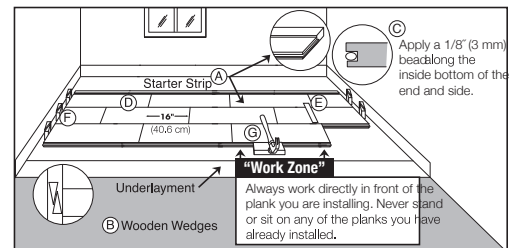

Figure 14
- Select the first board. All installations should begin with the groove side against the wall using the longest boards available. Apply a continuous 1/8" (3 mm) glue bead to the inside bottom of the groove on the end of the board. Do not apply glue to the groove side at this time (Item C, Figure 14). Products with the end tongue on the left should be installed right to left, opposite tongues should be left to right. (Item D, Figure 14). If a sacrificial board was used remove it DO NOT glue the first row to it.
- Complete the first row. Cut the last board allowing for 1/2" (13 mm) clearance between the wall and the floor. (Use the remaining end of the cut board as a starter board for any row following row three). Install a wedge on the end of the board between the hardwood flooring and the wall, allowing 1/2" (13 mm) expansion space. Avoid installation of any boards shorter than 16" (40.6 cm) in the first four rows. (Item F, Figure 14).
- Use a pull bar to pull the last board into place from the opposite end. Install wedges into the gap and tighten (Item B, Figure 14).
- Cut or use a shorter board for the first board of the second row. Start the second row by applying a 1/8" (3 mm) bead along the inside bottom of the end and side groove of the new board. Install the first board of row two. Apply a bead of glue to the inside bottom of the end and side groove of the next board and install. When installing boards together, use a tapping block against the tongue, not the groove (Item G, Figure 14). Tap the boards into place by tapping with a hammer on the tapping block. DO NOT tap on the edge directly with the hammer. Complete the second through fourth rows using this technique. Insert wedges on the ends, as necessary, to restrain the movement of the floor.